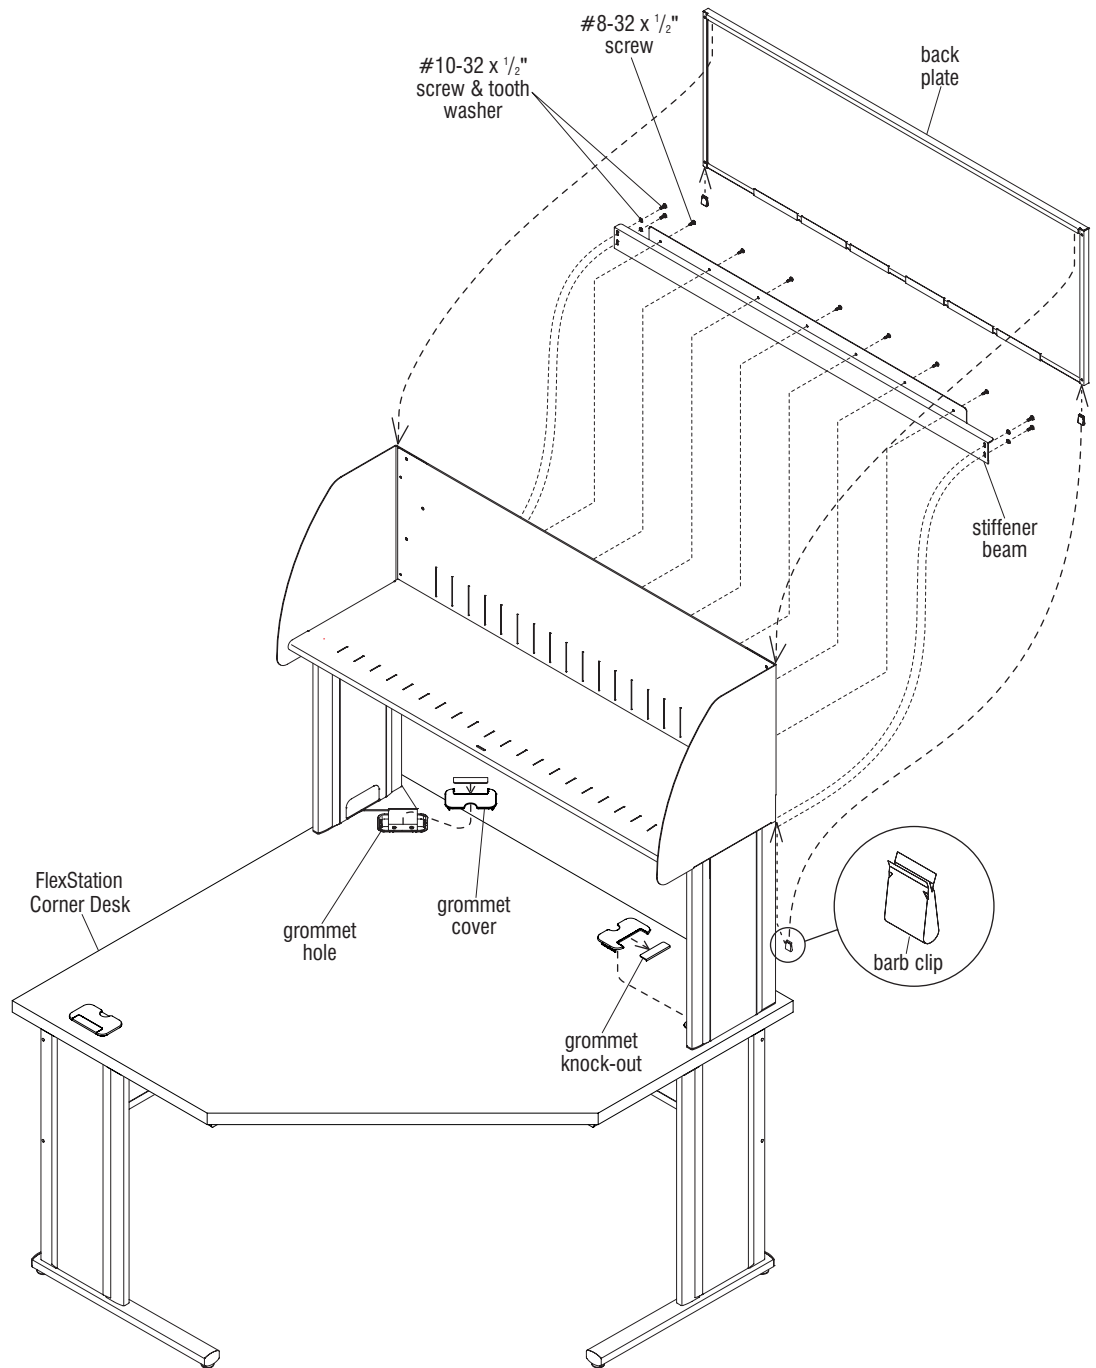

Figure 23
10. Position the stiffener bar as illustrated to the lower rear of the back shelf, align mounting holes and secure beam to shelf back using the required number of #8-32 x 1/2" screws. Also, at each end of the stiffener beam, use two #10-32 x 1/2" screws with tooth washers and secure the beam to the top rear of the right- and left-hand stanchions (Figure 23).
11. Orient the back plate as illustrated behind the cabinet, then hang it onto the back of the cabinet such that the top vertical flange of the back plate captures the top inside edge of the shelf back. Use the two barb clips provided and press them up at the underside of the cabinet to attach the bottom of the back plate to the bottom, rear of the shelf back (Figure 23).
12. Take grommets removed in step one and remove the knock-outs from each. Snap the grommets back into place in the grommet hole at the installed stanchions (Figure 23).